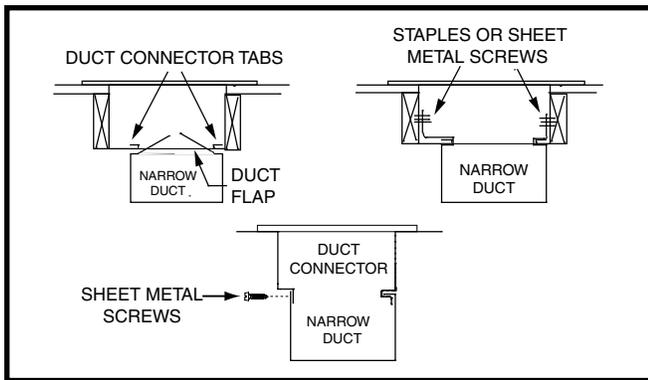

Figure 11. Narrow Ducts
- Bend the tabs on the bottom of the duct connector upwards and as tight as possible against the supply air duct. See Figure 11 (page 11).